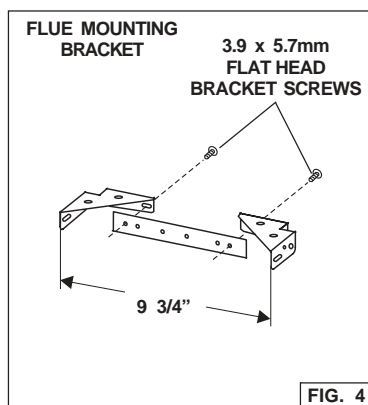

FIG. 4
- Assemble the flue mounting bracket, adjusting outside width as shown. Fig.4
- Secure the bracket assembly to the ceiling using (2) 4.8x38mm mounting screws and drywall anchors. Make sure the bracket is pushed into the corner, tight against the wall and centered over the hood.